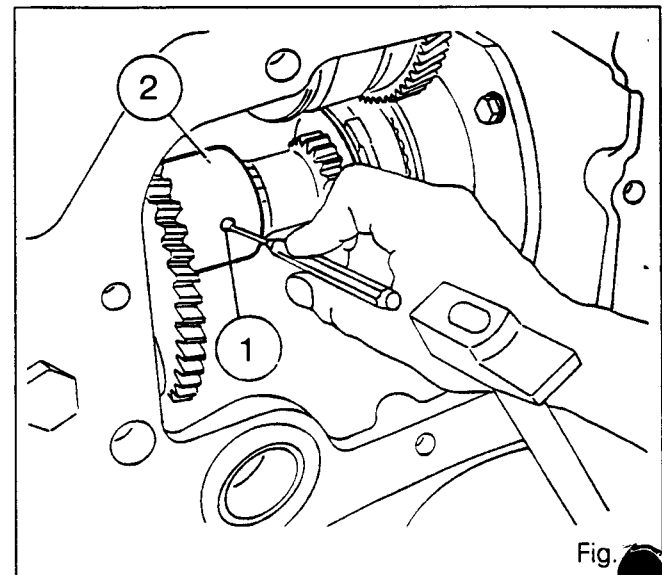
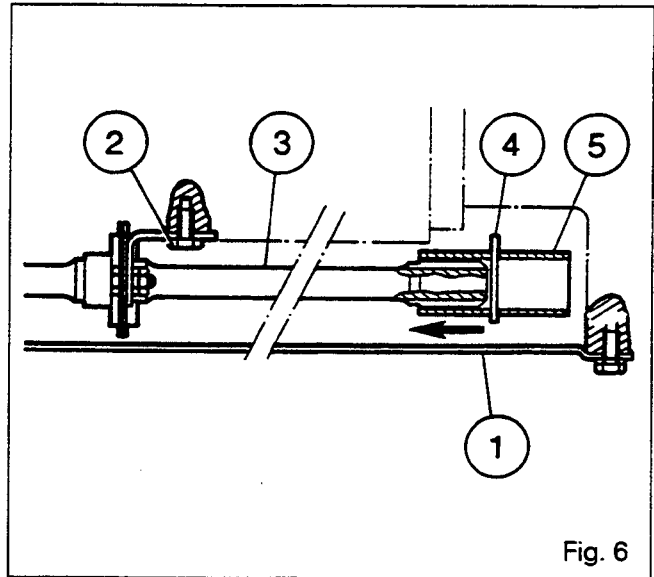

Fig. 4
Fig. 6
8. Drive out the pin (1) from the coupling sleeve (2) (Fig. 4).
10. Remove the guard (1) (Fig. 6).
11. Unscrew the centre bearing (2) from the 4WD shaft (3) (Fig. 6).
12. Remove the cotter pin (4) from the rear sleeve (5).
Disengage the 4WD clutch shaft by sliding off the sleeve (Fig. 6). Turn the half-shaft so as to bring the coupling sleeve (2) into position (Fig. 4).